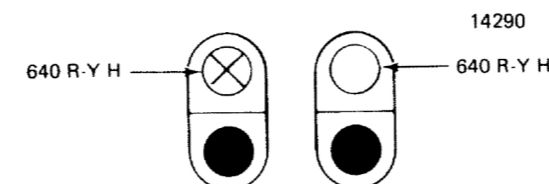

Fig. 3 - Harness Number
- Harness number is shown in Figure 3. The 5 or 6 digit number near the wire indicates the wire harness basic part number.